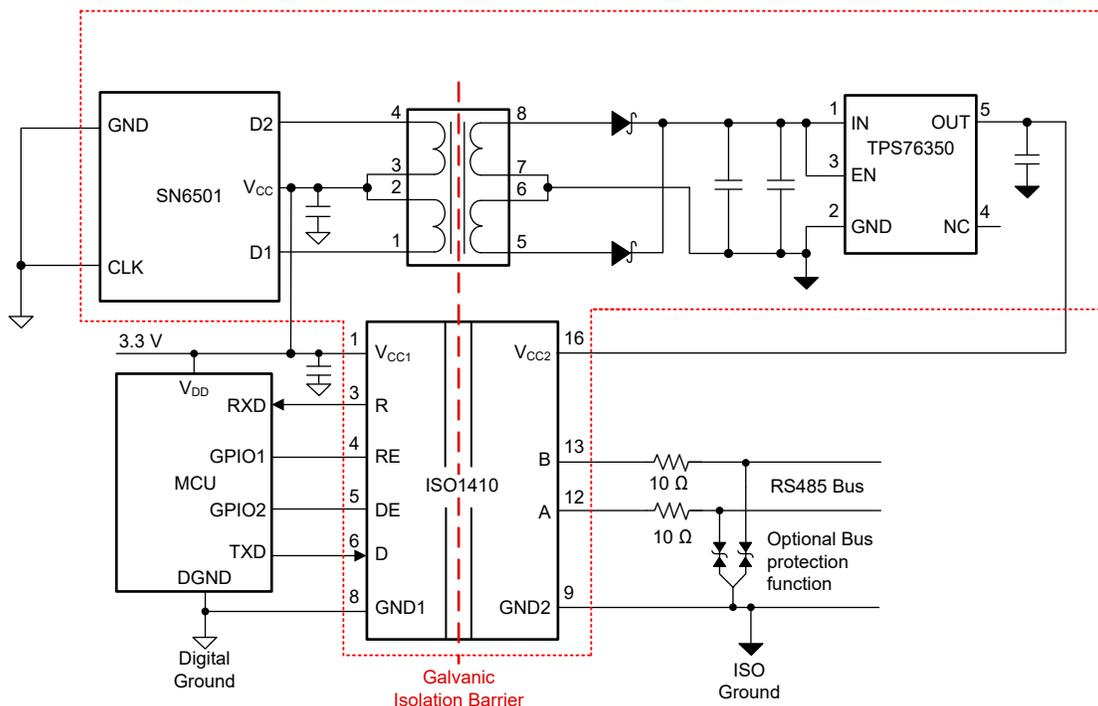
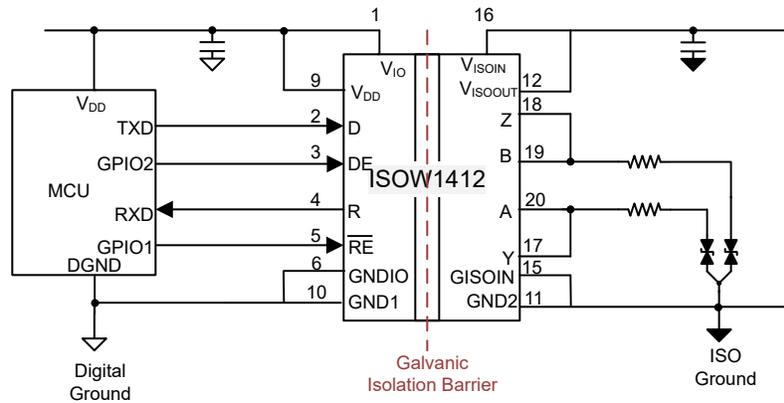

Figure 1. Isolated signal and power solution for RS-485 using ISO1410 and SN6501 transformer driver
Figure 2. Integrated implementation of isolated RS-485 and isolated power
When galvanic isolation is needed for RS-485 communication, signal isolation is required to isolate the transmit, receive, and enable signals from the microcontroller to the transceiver. This is typically done with an isolated RS-485 transceiver or a digital isolator plus external transceiver. In addition to isolating the RS-485 data, isolated power must be supplied to the secondary side of the isolated transceiver. A DC-DC converter can be used in a variety of topologies including push pull, fly-back, and fly-buck for that purpose. Figure 1 shows an example of a transformer driver used with the external transformer to create the isolated power supply.
As an alternative to the discrete implementation, one may use an isolated RS-485 transceiver with integrated DC-DC, as shown in Figure 2. In this case, the complete functionality of the red highlight in Figure 1 is fully integrated into a single chip.
- **Ease of certifications:** Safety certifications can add time and effort on top of the already hectic process of releasing a product. Each isolation component in a system must be certified to component level standards, such as Verband der Elektrotechnik (VDE) 0884-11 or Underwriters Laboratories (UL) 1577. Finding the appropriate transformer with the right isolation ratings and certifications also adds complexity to the design process. Combining the signal and power isolation into a single chip solution allows for these elements to be certified together, resulting in a shorter certification process for the end product.
- **Simplicity and robust design:** By integrating the components used in Figure 1 into the single chip solution shown in Figure 2, board design becomes much simpler. In addition, bulky transformers can perform poorly in applications exposed to consistent vibration. By removing the transformer from the board, the system design becomes more reliable when using the single chip solution.